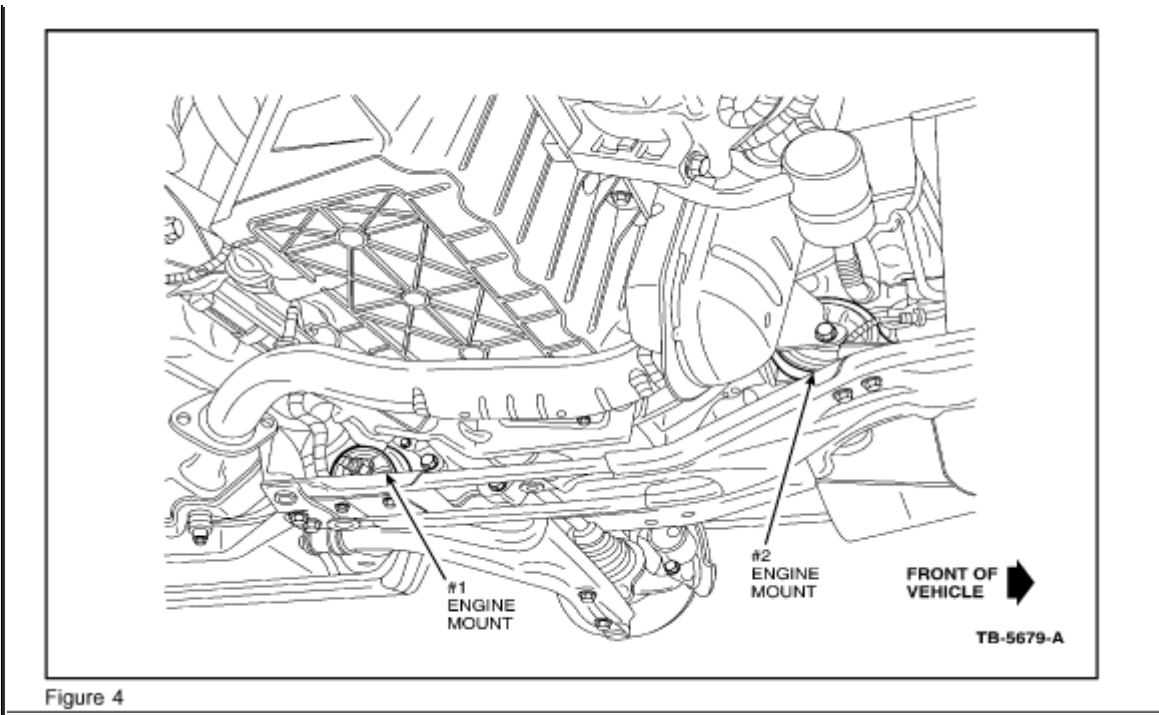

Figure 4
8. Loosen the center bolt on the # 1 (rear) lower Engine Mount (Figure 4).
9. Loosen the center bolt on the # 2 (front) lower Engine Mount (Figure 4).